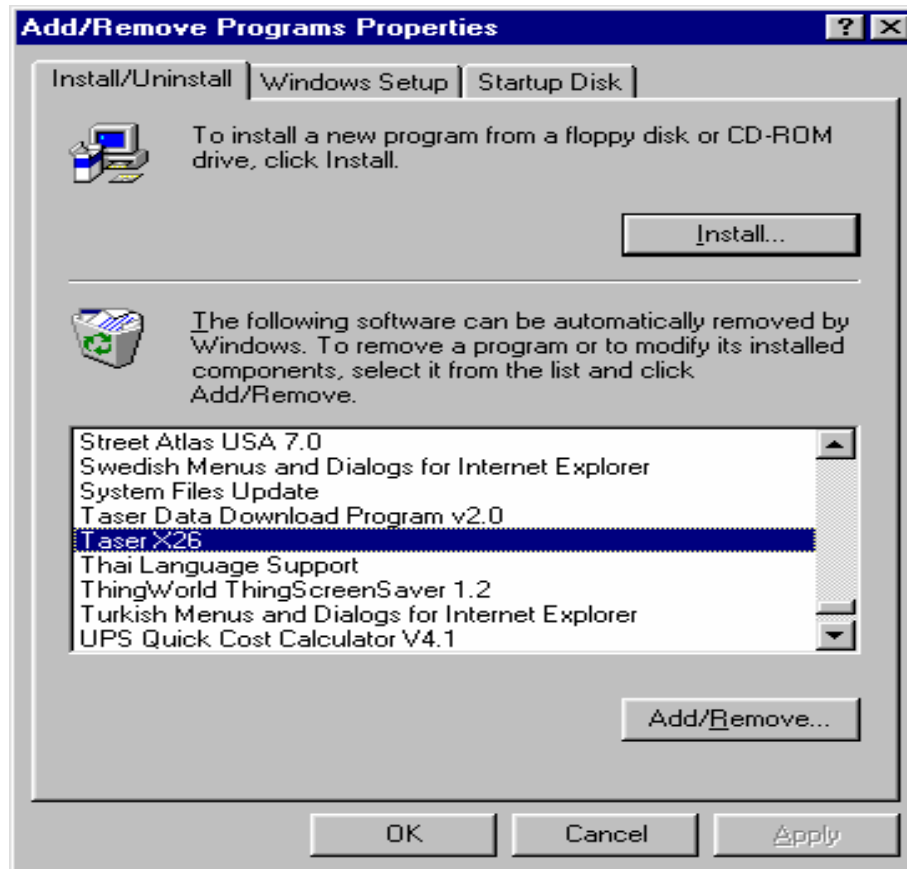

Figure 31
8. Select **Taser X26** then click the **Add/Remove** button (Figure 31).